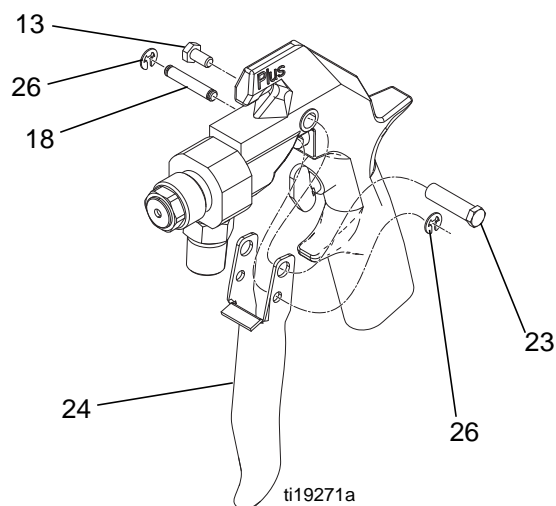

FIG. 7
5. Remove one e-clip (26) then push the pin (18) out of the gun. Remove the screw (13), pivot pin (23), and trigger (24). See FIG. 7.